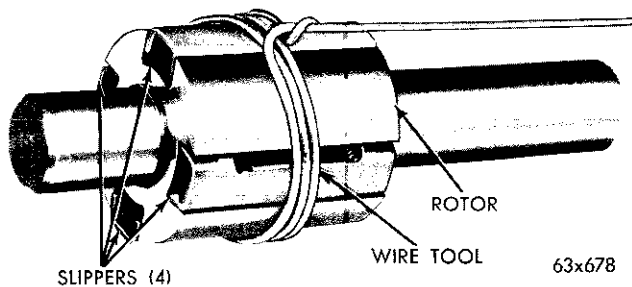

Fig. 16—Slippers Properly Installed in Pump Rotor
(13) Install each slipper by sliding the slipper between the two springs and the wire tool so that the ends are flush with the rotor. The notched portion of the slipper must be installed, (Fig. 16).